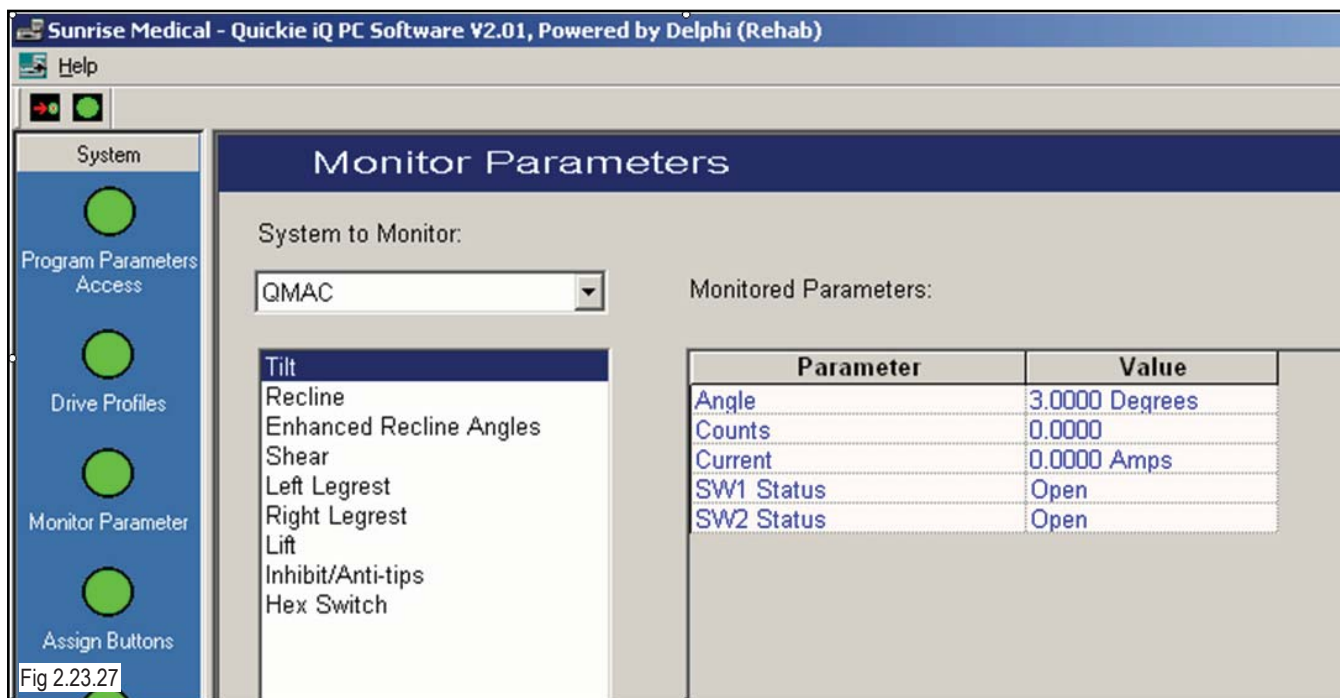

Fig 2.23.27
4. If using the Quickie iQ, select Monitor Parameter, followed by selecting QMAC, then actuator to test (i.e., Tilt). (fig 2.23.27)